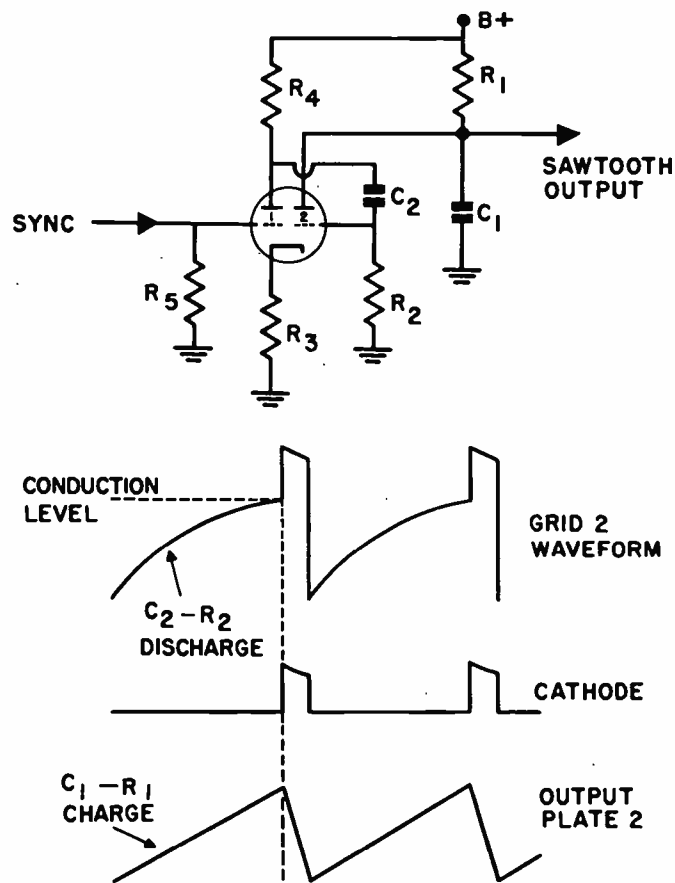
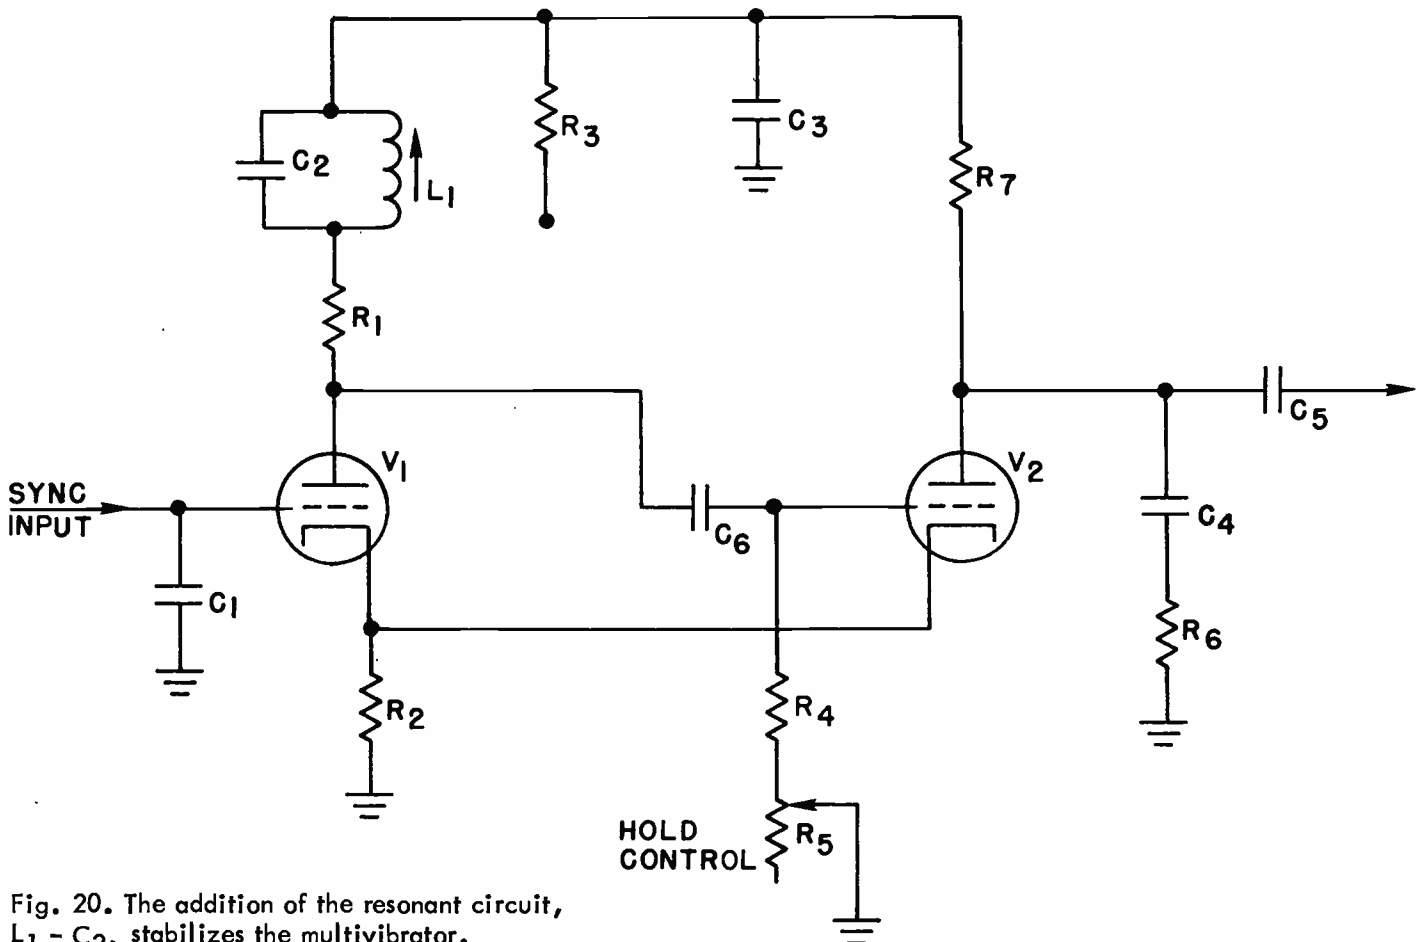
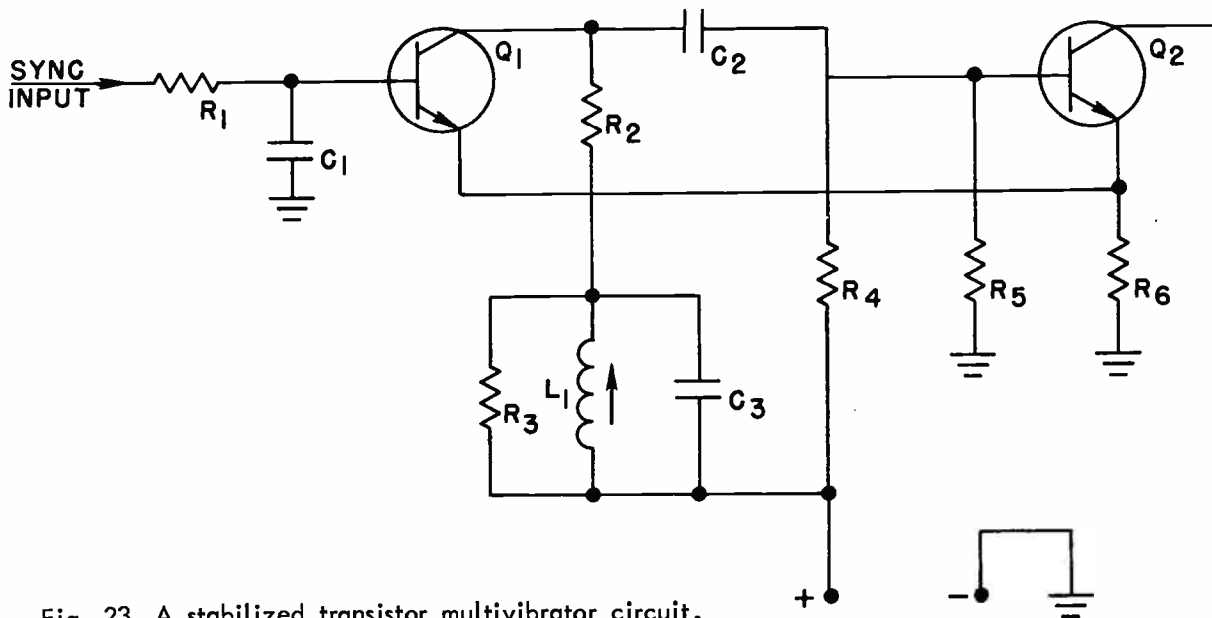

Fig. 19. A cathode-coupled multivibrator.
Fig. 20. The addition of the resonant circuit, $L_1 - C_2$, stabilizes the multivibrator.
Fig. 23. A stabilized transistor multivibrator circuit.
Another basic sawtooth-generating circuit is the cathode-coupled multivibrator illustrated in Fig. 19. In this circuit the sawtooth voltage is developed across capacitor C_1 , and the frequency of the multivibrator is determined mainly by capacitor C_2 and resistor R_2 . The two sections conduct and are cut off more or less in the same way as the two sections of the plate-coupled multivibrator. In many respects, the second section of the triode functions very much the same as the blocking tube, because the sawtooth trace is formed on capacitor C_1 when the tube is non-conducting, and the retrace is formed when the tube conducts and discharges capacitor C_1 . The cut-off time of the tube is controlled by the time constant of the grid capacitor C_2 and grid resistor R_2 , just as in a blocking oscillator and a plate-coupled multivibrator. In fact, the first
It is possible to improve the frequency stability of a cathode-coupled multivibrator by inserting a tuned circuit in the plate circuit of the feedback tube, as shown in Fig. 20. The resonant circuit, consisting of inductor L_1 and capacitor C_2 , is tuned to a frequency near the synchronized frequency of the multivibrator. Except for the resonant circuit, the multivibrator is basically the same as the one shown in Fig. 19. Circuits such as shown in Fig. 20 are widely used as the horizontal oscillator in a TV receiver.
In Fig. 23 we have shown a stabilized transistor-multivibrator circuit. This circuit is used as the horizontal sweep oscillator in a modern television receiver. Notice how similar it is to the stabilized vacuum-tube multivibrator circuit in Fig. 20. In the vacuum-tube circuit the two tubes are cathode-coupled, whereas in this circuit the transistors are emitter-coupled. Notice that in the vacuum-tube circuit the resonant circuit is placed in the plate circuit of one of the tubes, whereas in the circuit in Fig. 23 the resonant circuit is placed in the collector circuit of one of the transistors.
The operation of the transistor oscillator shown in Fig. 23 is quite similar to the operation of the vacuum-tube oscillator shown in Fig. 20. When Q_1 is cut off, the potential on the collector will rise to the full $B+$ supply potential. R_4 and R_5 form a voltage divider network and the capacitor C_2 charges to a potential equal to the difference between the $B+$ supply potential and the potential at the junction of R_4 and R_5 .
The parallel-resonant circuit in the collector circuit of Q_1 consists of L_1 and C_3 . This circuit performs the same function as the parallel-resonant circuit does in the circuit shown in Fig. 20. It shapes the waveform applied to the base of Q_2 so that the conduction of Q_2 becomes less susceptible to noise pulses that might be fed through Q_1 to Q_2 . The resistor R_2 across the resonant circuit is placed across the circuit to load the circuit in order to prevent the parallel-resonant circuit from developing too high a voltage swing.
- (p) What purpose do C_2 and L_1 serve in Fig. 20?